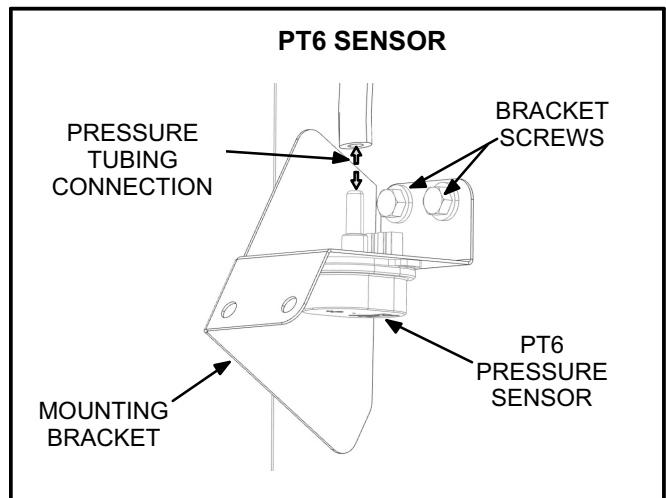

FIGURE 4
- 8- Disconnect the pressure tubing from PT6 pressure sensor. See figure 4. Remove two screws and remove sensor/bracket assembly (note the orientation) from existing blower housing. Install the sensor/bracket onto the replacement blower assembly. Reattach the tubing in the same manner they were removed.